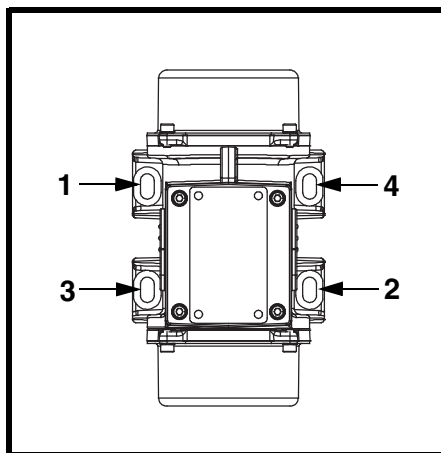

Figure 3. Mounting Bolt Tightening Sequence
Tighten mounting bolts in sequence shown in Figure 3. If not tightened in order, vibrator casting could be damaged.
5. Install vibrator onto mount with new lock nuts, compression washers, and bolts according to Table I. Tighten bolts in order given in Figure 3 to avoid damaging vibrator casting. (Contact fastener manufacturer for specific information regarding bolt torque.)